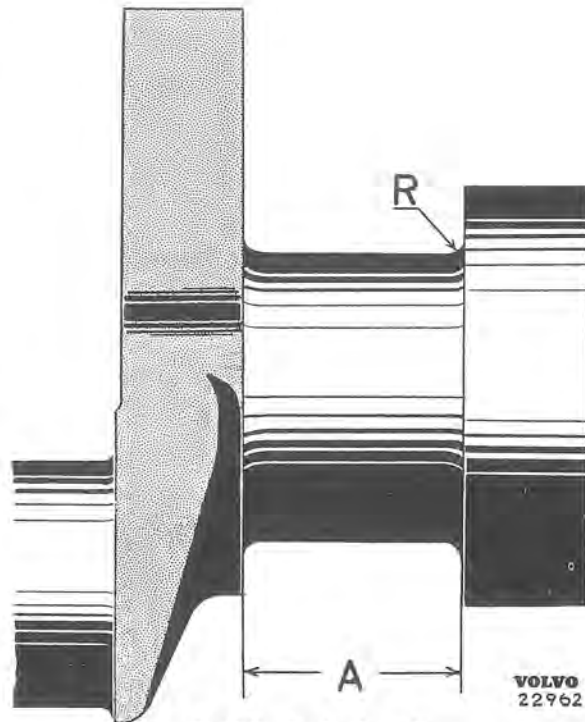

Fig. 2-33. Bearing journal
The fillets at the ends of the journals should have a radius of 2.0–2.5 mm (0.080–0.100") on all journals, see Fig. 2-33. The width measurement (A) for the pilot bearing depends on the size of the journals and should be ground in order to obtain the correct measurement. After grinding has been completed, all the burr should be carefully removed from the oilway openings and all the journals lapped with a fine grinding paste to the finest possible surface finish. The crankshaft should then be washed. All the oilways should be cleaned with particular thoroughness in order to remove any metal chippings and grinding residue.